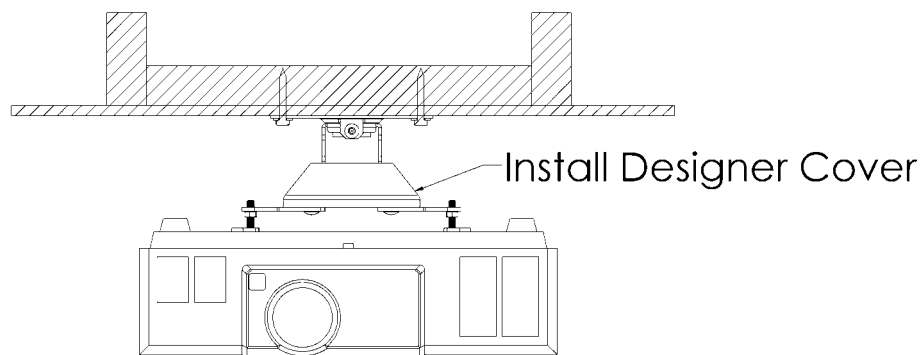

Figure 14. Cover Installation
2. Install designer cover (see Figure 14).